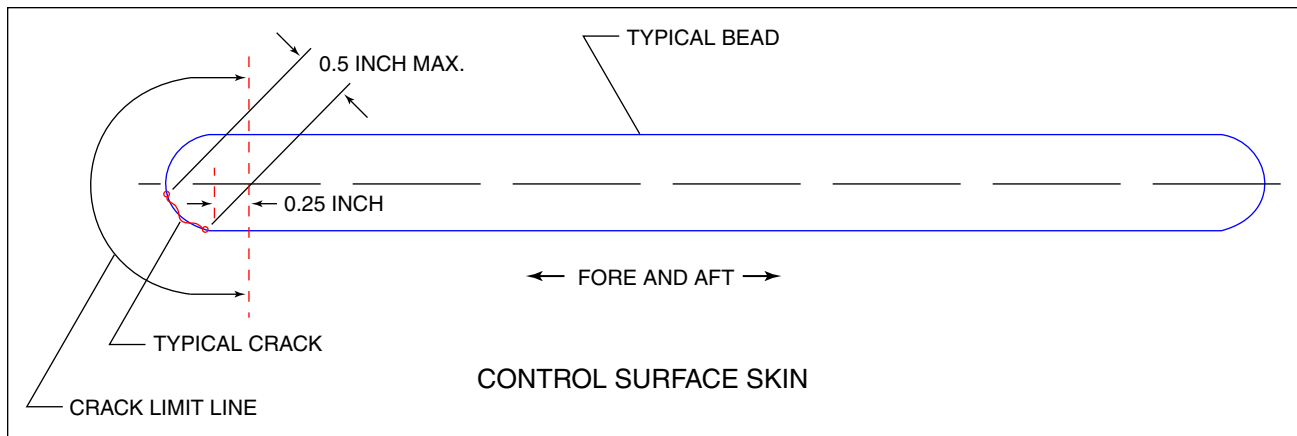

Figure 4-11a. Skin Bead Repair
## 4-55a. SKIN BEAD REPAIR (See Figure 4-11a.)
- (c) Cracks are limited to either end of a bead (see Figure 4-11a.), but not on the same bead;
- (d) Cracks are limited to either end of a bead (see Figure 4-11a.), but not on the same bead.
- (c) Cracks are limited to either end of a bead (see Figure 4-11a.), but not on the same bead.
- (1) Only cracks confined to the bead end area shown in Figure 4-11a may be repaired;
- (2) Cracks 0.5 inch long or less may be repaired by stop drilling;
- (3) Stop drill the extreme ends of the crack with a #50 (0.070) drill.